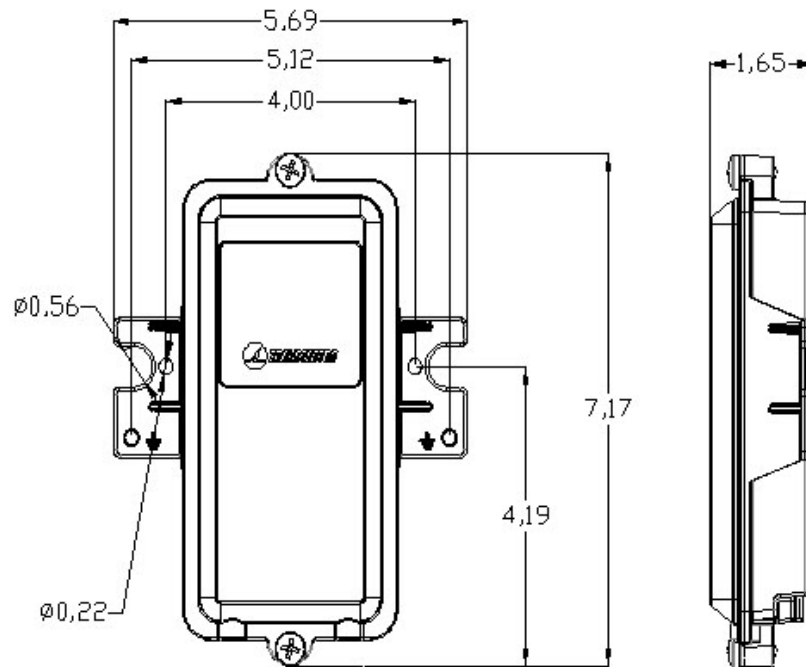

Figure 1. Mechanical outline drawing (inches)
1. The ALPU SERIES is intended to be installed indoors or outdoors, on wall or pole mount applications. The unit features mounting feet on the sides that mount on 4" center-to-center holes with #10 sized hardware. The mount foot also adapts to 4" diameter pole mounting kits with a 4.5" center-to-center holes and larger hardware. Refer to figure 1 for mechanical requirements and connector locations. The optimum ground connection on the metal enclosure unit at the mounting flange on either side is shown in Figure 1. Use ground wire provided. Trim length as short as possible. Communication cables with the RJ45 connectors already installed can feed directly into the enclosure. Be sure to install the cables with the unprotected cable installed into the left "in" jack and the protected equipment cable in the right "out" jack. The enclosure features a built in cable retention that grips the cable with a screw down bracket. A pole mount adapter kit (pn 1000-1164) is provided to meet installations on a wide range of pole diameters from 2" metal fence poles to 10" diameter utility poles.
2. Mount the unit to an outside surface using the two mounting holes shown in figure 1.